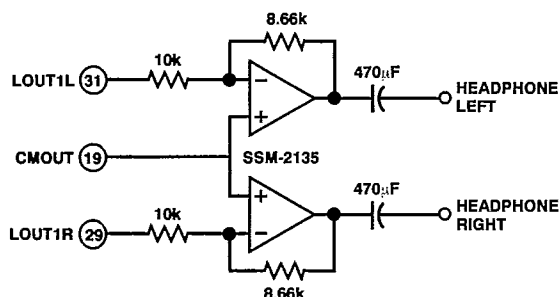
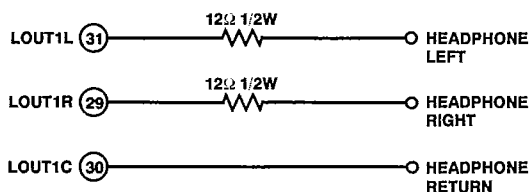

Figure 14. AD1849 Headphone Drive Connections
Figure 15. K-Grade Optional Headphone Drive Connections
A circuit for headphone drive is illustrated in Figure 14. Drive is supplied by +5 V operational amps. The circuit shown ac couples the headphones to the line output.
The *K-Grade* adds a common return path LOUT1C on Pin 30 which is biased up to the CMOUT voltage, nominally 2.25 V. The *K-Grade* also allows for 6 dB larger output voltage swings by resetting the OLB bit (Bit 59 of the Control Word) to "0." Figure 15 illustrates an alternative headphone connection for the *K-Grade* which uses the LOUT1C pin to eliminate the need for ac coupling. The 12 Ω resistors minimize output level variations caused by different headphone impedances. LOUT1L, LOUT1R and LOUT1C are short-circuit protected. Note that driving headphones directly as shown in Figure 15 with OLB = 0 will cause clipping for large input signals and will only work with very efficient "Walkman-type" headphones. For high quality headphone listening, Analog Devices recommends the circuit shown in Figure 14 for the *J-Grade* and the *K-Grade* with OLB = 1.
- Analog Devices recognized the wide range of impedance and sensitivities of available headphones and therefore recommends the external headphone drive circuit shown in Figure 14. The CS4215 recommended headphone circuit suggests that this buffer circuit is not required. Note that the *K-Grade* AD1849 adds the OLB bit (Bit 59 of the Control Word) which when reset to "0" provides compatibility with the CS4215. With the circuit of Figure 14, either chip will drive the majority of "Walkman-type" headphones to acceptable volume levels (though with clipping at full volume).